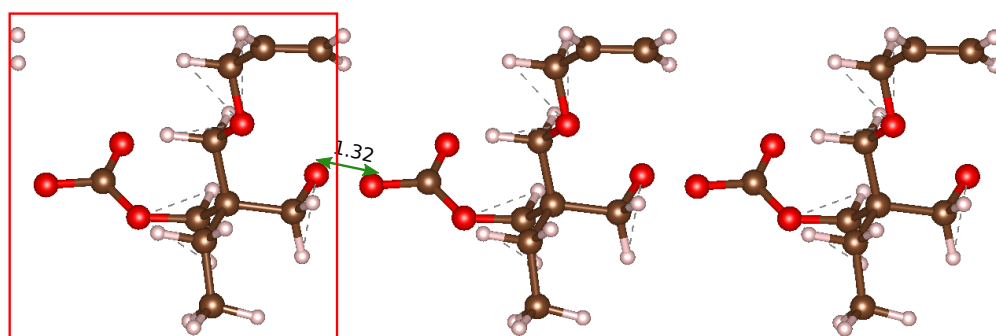

FIGURE 5.1: Polymer chain model for [\*]OCC(CC)(COCC=C)COC(=O)O[\*]
- Sometimes VESTA doesn't show a bond between two atoms even if they are at an acceptable distance (see Figure 5.1). If VESTA shows a broken chain, calculate the distance between two atoms. If required, add another unit cell and verify the model again.